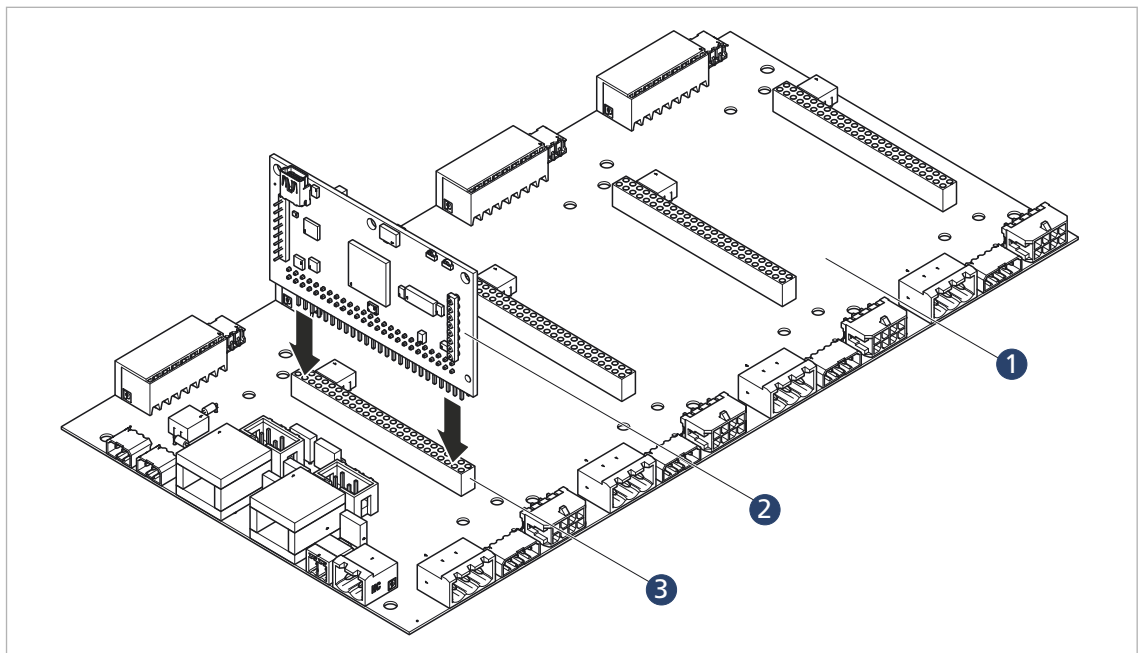

Fig. 9: Installation of a Motion Controller circuit board
- ▶ Orient the Motion Controller circuit board as shown in Fig. 9.
- ▶ Connect the Motion Controller circuit board (2) to the motherboard (1) via the connector (3).